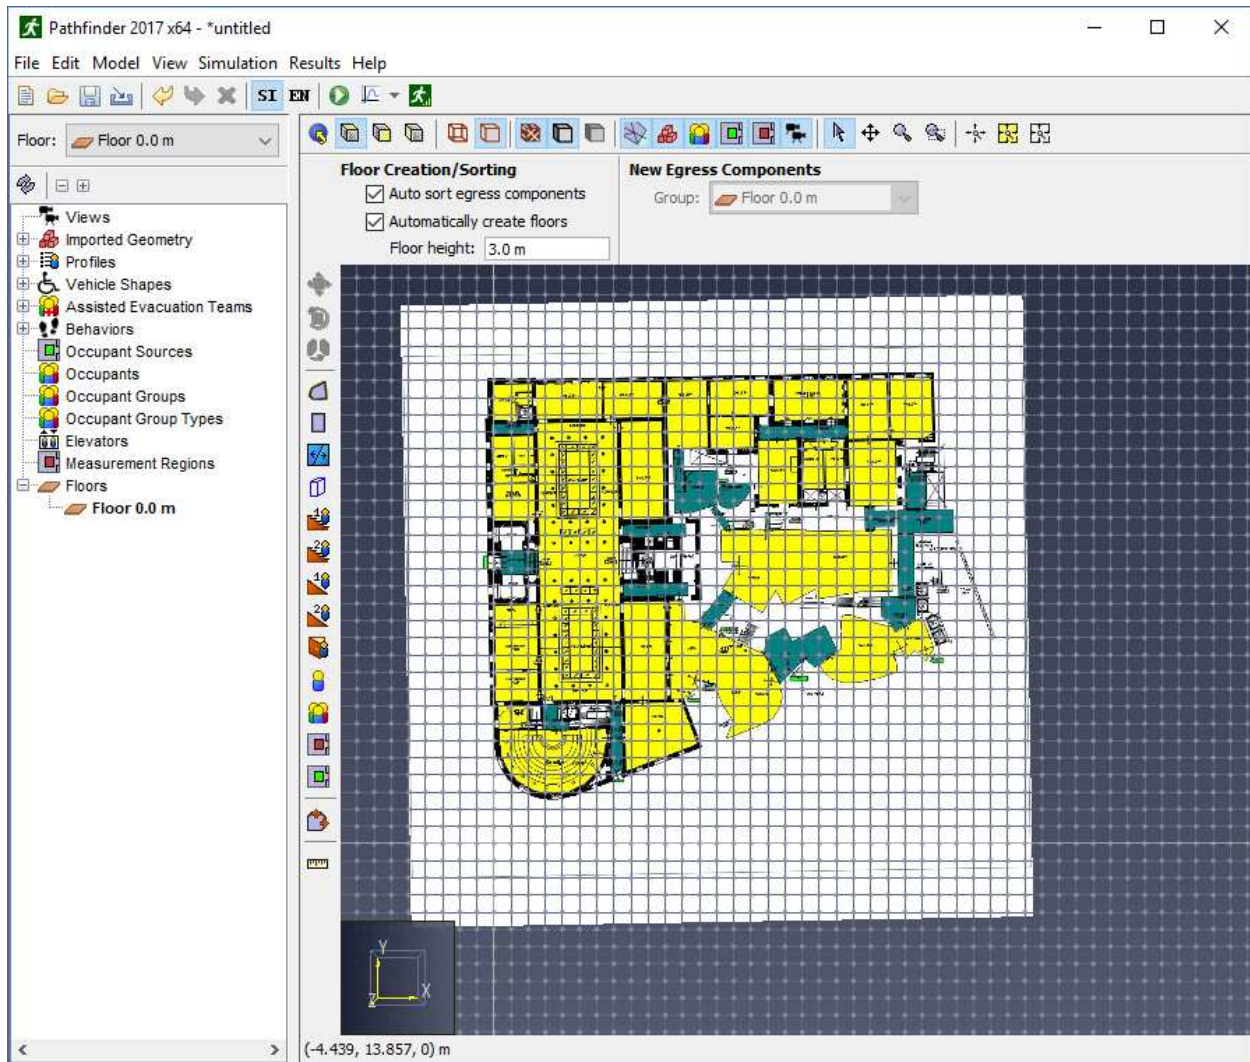

Figure 81. Background image added to the model.
5. Click **OK** and the image will be placed in the model as specified (Figure 81).